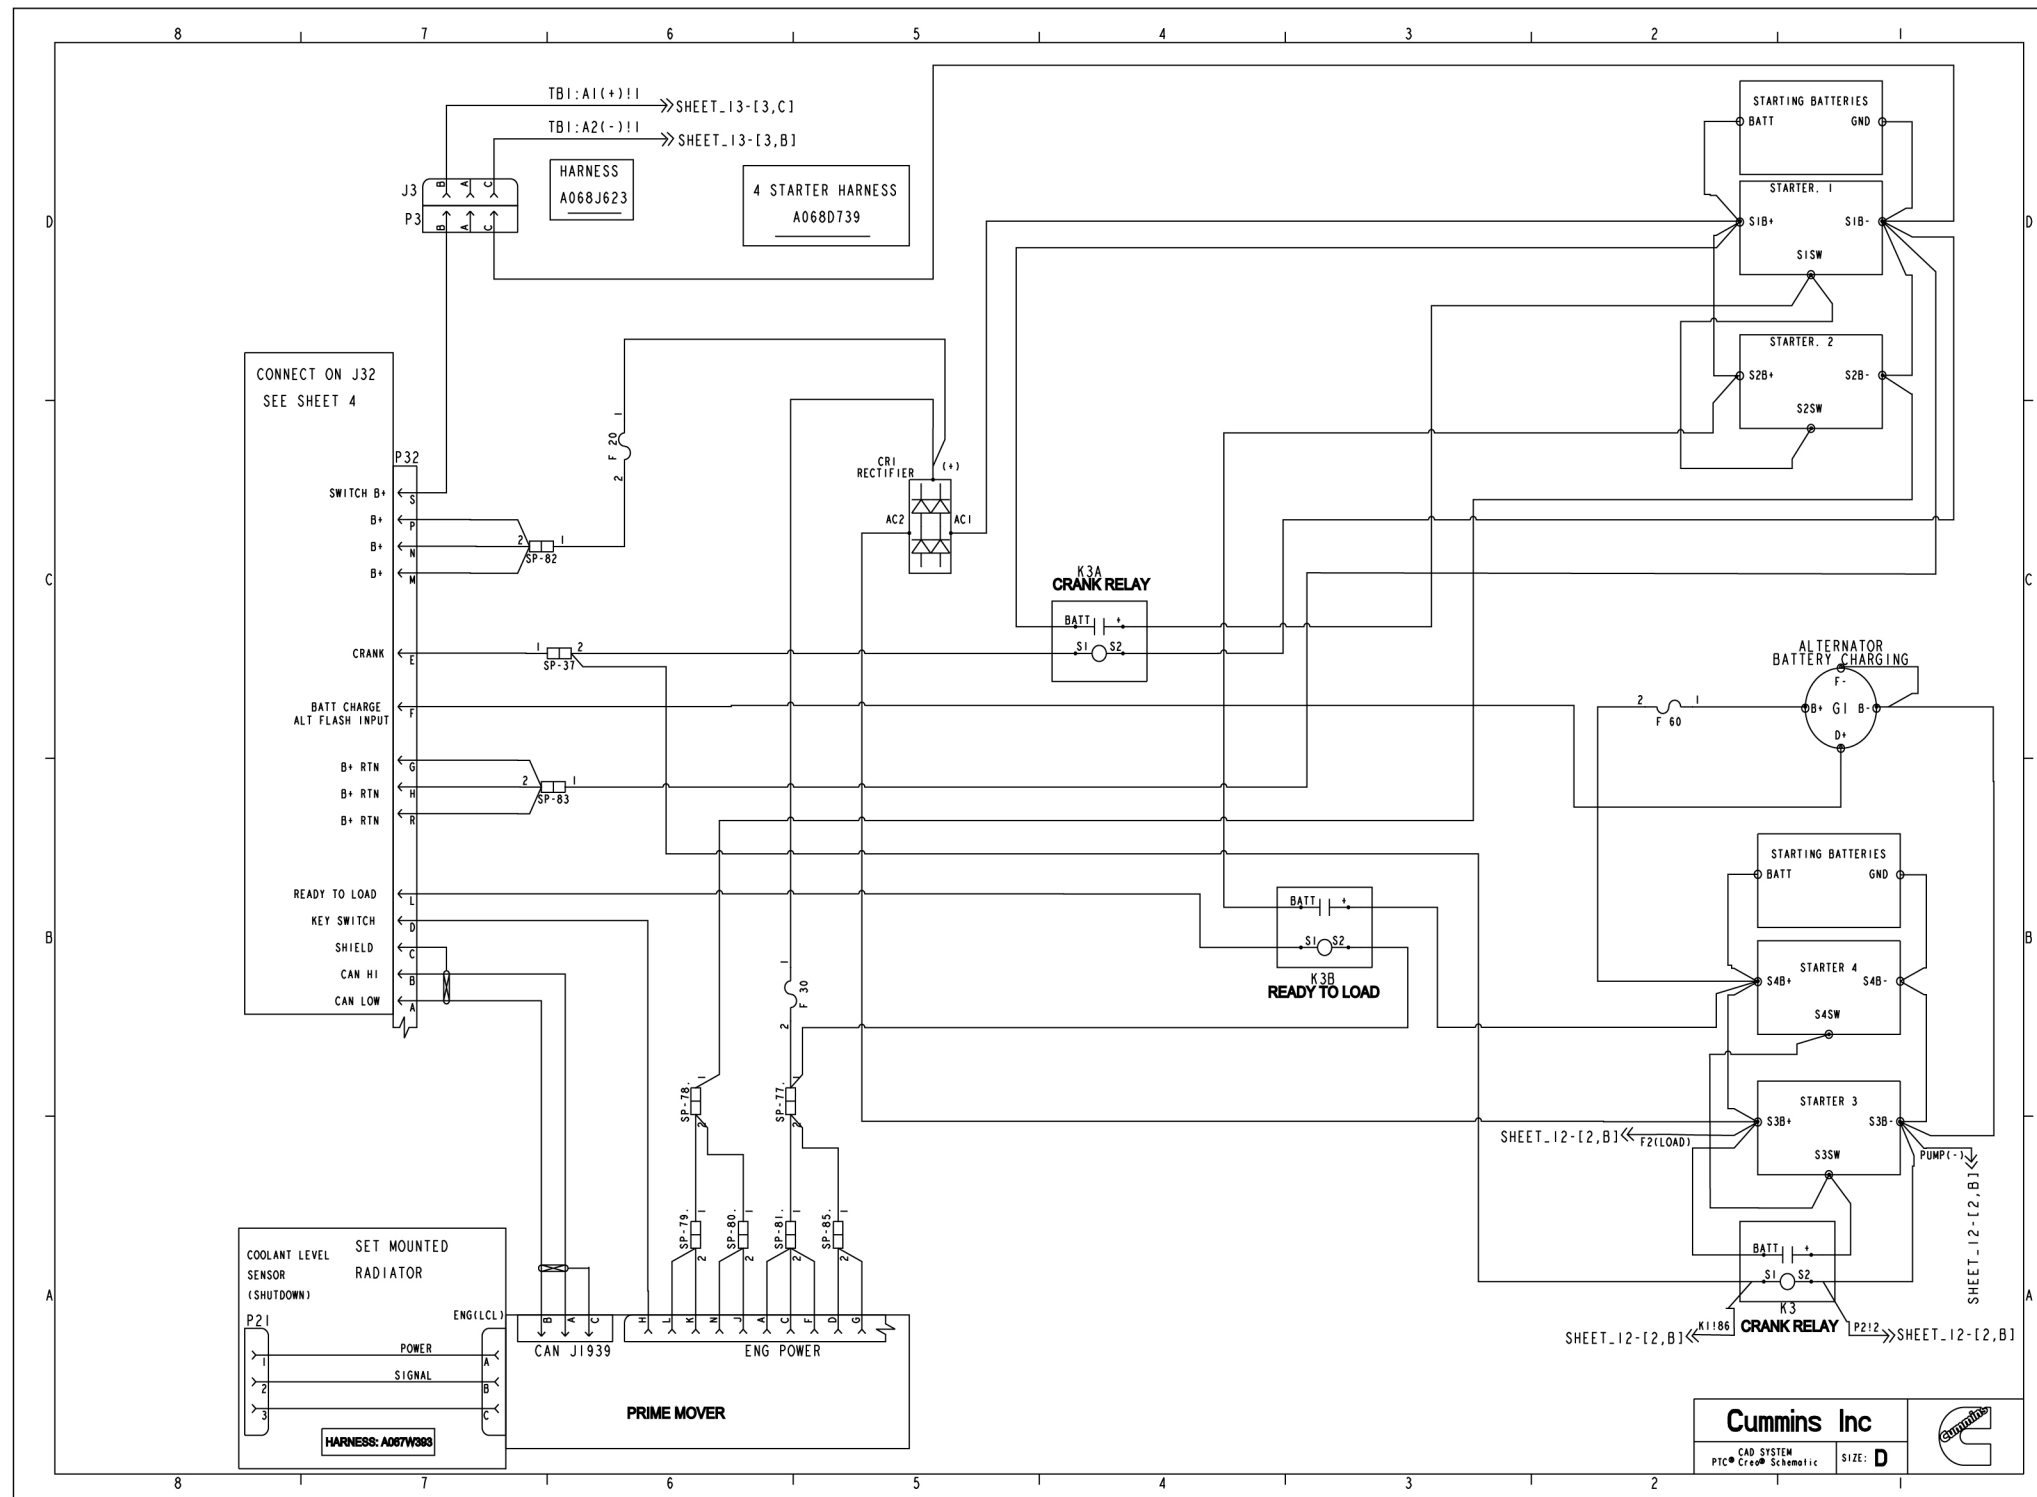

FIGURE 100. WIRING SCHEMATIC (SHEET 16)
- Figure 100. Wiring Schematic (Sheet 16) 404